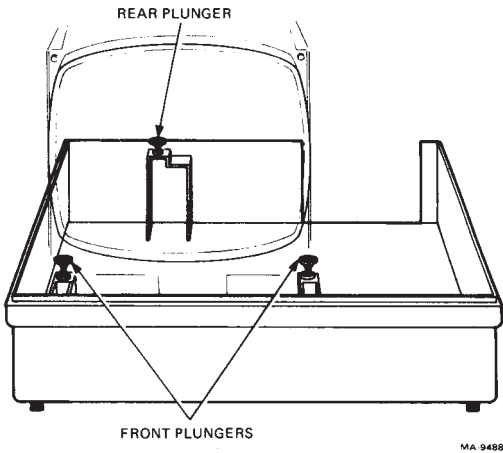

Figure 2-10 Bottom Cover Removal
6. Release the two front pop fasteners holding the frame to the base by pulling the plunger up (Figure 2-10).
7. Release the one rear pop fastener holding the power supply receptacle box to the base by pulling the plunger up (Figure 2-10).